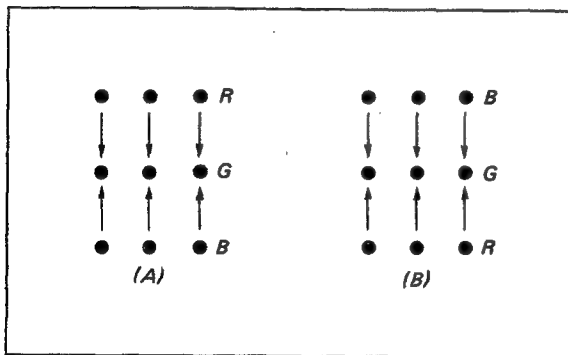
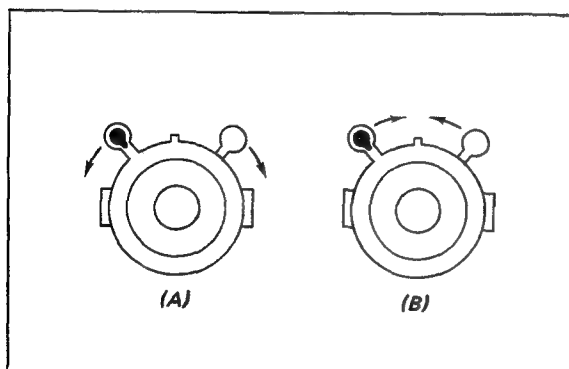

Fig. 3-7.
Fig. 3-8.
1. Spread the two tabs of beam alignment magnet in equal amounts opposite directions to converge red dots and blue dots with green dots. See Fig. 3-7, Fig. 3-8 and Fig. 3-9.